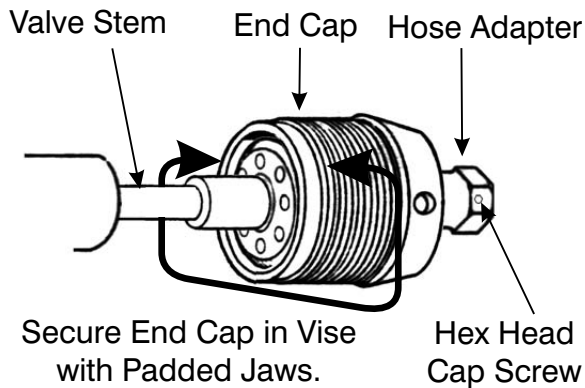

Figure 9-24. Hose Socket on Valve Stem.
2. Secure the End Cap (10) to prevent rolling during assembly. See Figure 9-24.